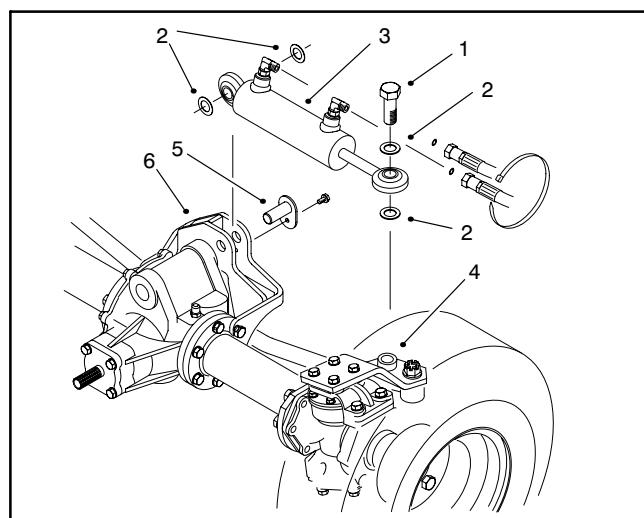

Figure 18
A. (4WD Unit Serial No. 80001 - 99999) Remove the lock nut, capscrew, and thrust washers securing the rod end of the cylinder to the steering arm. (Fig. 18).
- A. (4WD Unit Serial No. 80001 - 99999) Hold the steering cylinder in position and install the pivot pin and thrust washers (Fig. 18). Use medium strength Loctite® thread locker and tighten the capscrew to 70 to 80 in-lbs. (8 to 9 Nm).